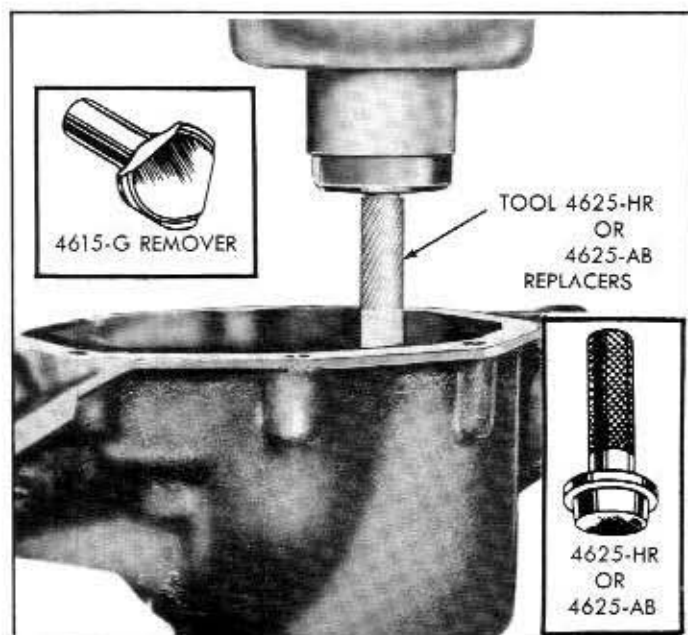

Fig. 4-22—Front Pinion Bearing Cup Removal, or Rear Pinion Bearing Cup Installation—(61CM-5202)
14. With the use of Tools 4615-G and 4625-L (or 4625-AA) press the cups out of the differential housing in the manner shown in figures 4-22 and 4-23.
16. Place the differential housing in an arbor press. Press the new rear pinion bearing cup into the housing with Tool 4625-HR (or 4625-AB). Replace the front cup with Tool 4615-HF. See figures 4-22 and 4-23. Pinion bearing cups must be solidly seated. Check the installation by attempting to insert a 0.0015-inch feeler gauge between the cups and the bottom of their respective bore.